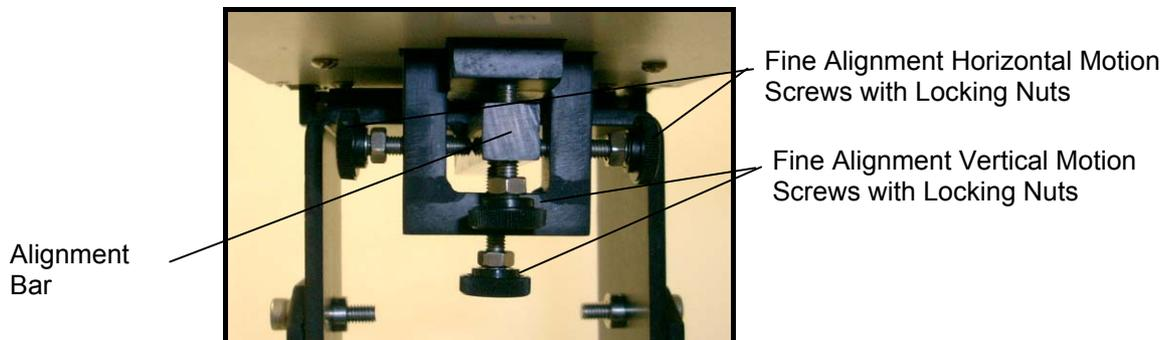

Figure 20: Fine Alignment Motion Screws – Rear View
2. To enable maximum flexibility during the fine alignment stage, rotate the fine alignment screws (*Figure 20*) until the alignment bar is centered.
The purpose of fine alignment is to position the center of the transmitted beam spot on the center of the TereScope 1 receiver – in both directions. This is achieved by adjusting the horizontal and vertical motion screws (shown in *Figure 20*) until maximum power is received at the opposite TereScope 1.